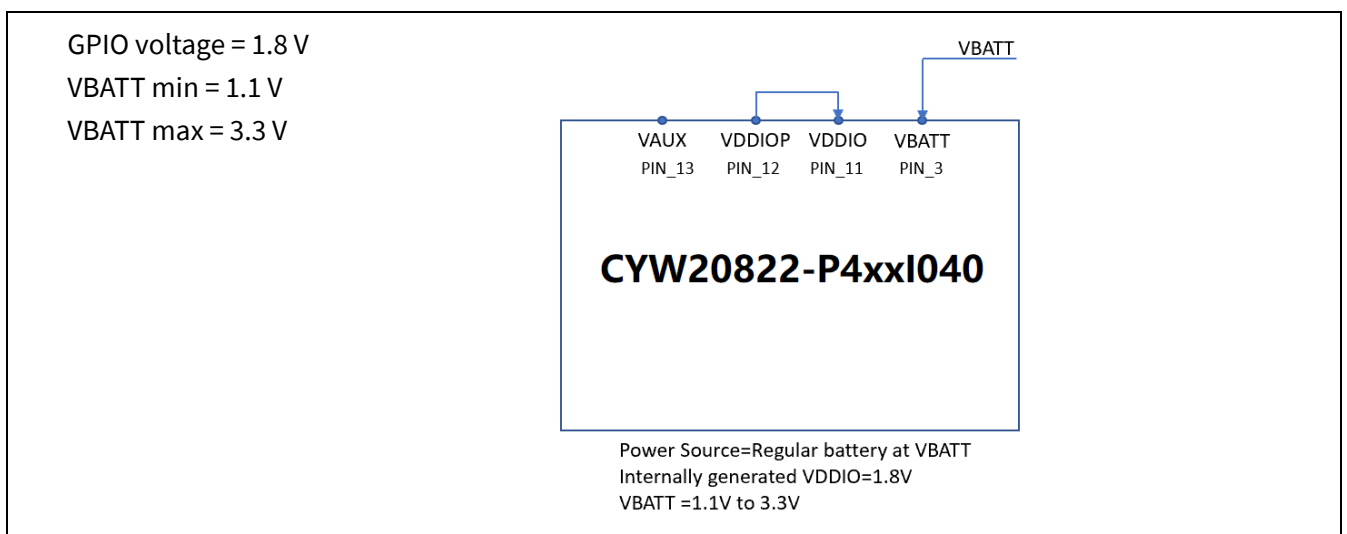

Figure 10 Regular battery, internal I/O supply
- For applications that can use a fixed 1.8 V I/O supply for better power consumption or VBATT ≤ 1.8 V (see Figure 10).